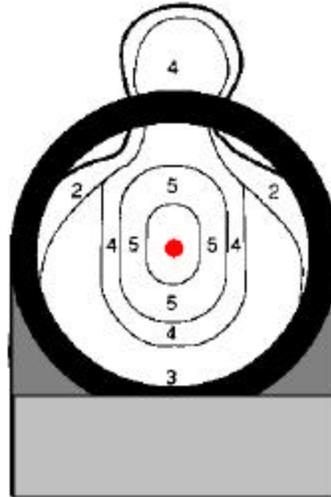

Figure 7
- f. Sight Picture for weapons with ACOG Sight. The ACOG reflex sight is designed for close combat and quick target acquisition while providing enhanced aiming. It has a tritium illuminated dot for night and low light use. When using the ACOG reflex sight, place the amber aiming point on the desired area of impact (the center mass of the target). (See figure 7.)